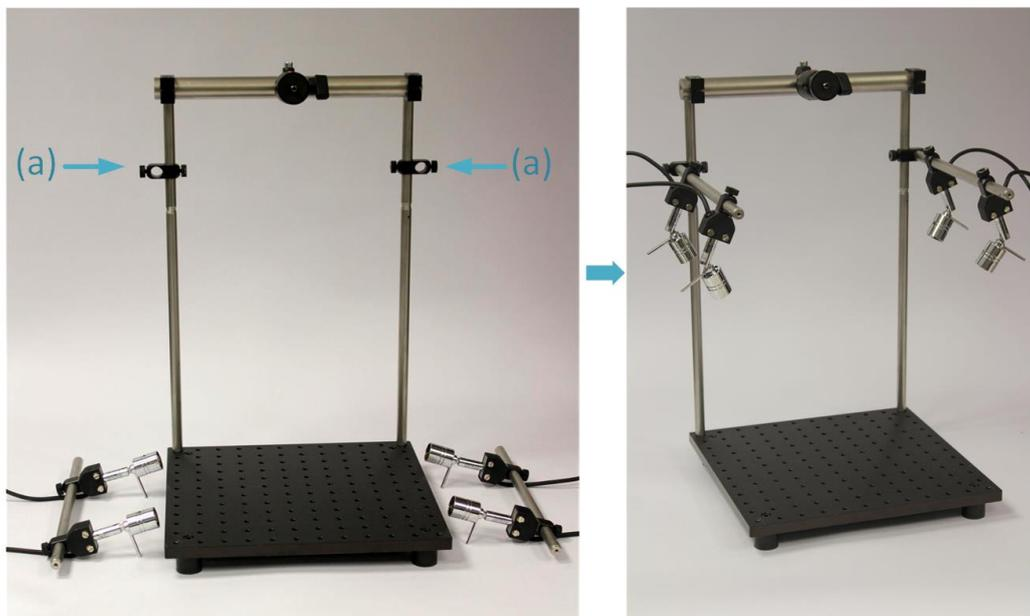

Figure 27 Mounting of lamp holders on to the setup
Step 4.2 Mount the posts on to the setup (Figure 27)